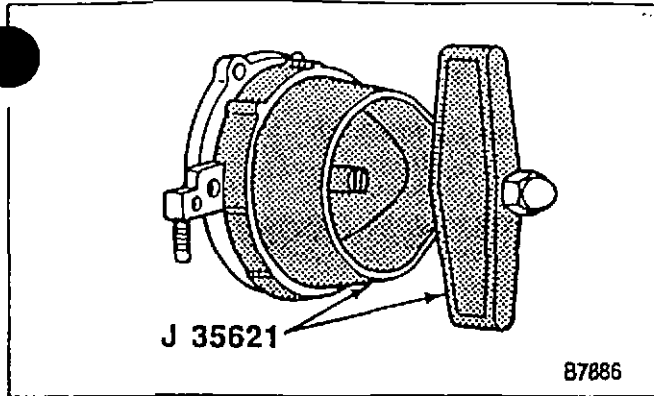

Figure 73—Installing the Crankshaft Rear Oil Seal (5.0L and 5.7L Engines)
- Screws (80) and nuts (81) to 15 N·m (11 lbs. ft.).
4. Crankshaft rear oil seal (figure 73).